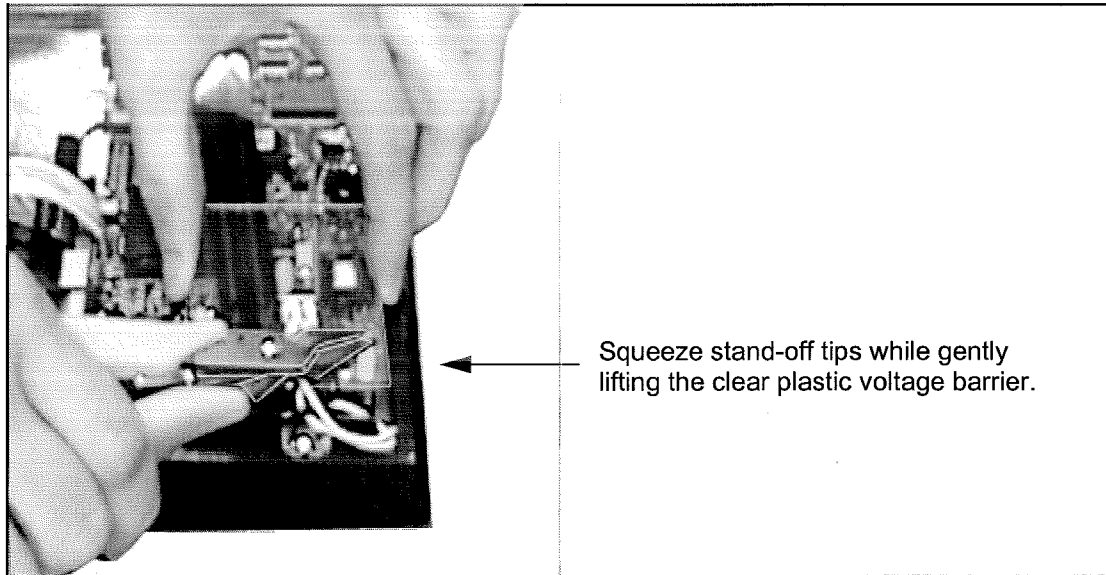

Figure B-1 Removing Voltage Barrier
2. Repeat until the voltage barrier is free. See Figure B-1.